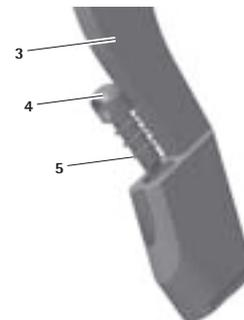

Fig. 3
- Slide pushbutton 4 into handle part 3, making sure that the notch on the pushbutton is aligned as shown in Fig. 3.